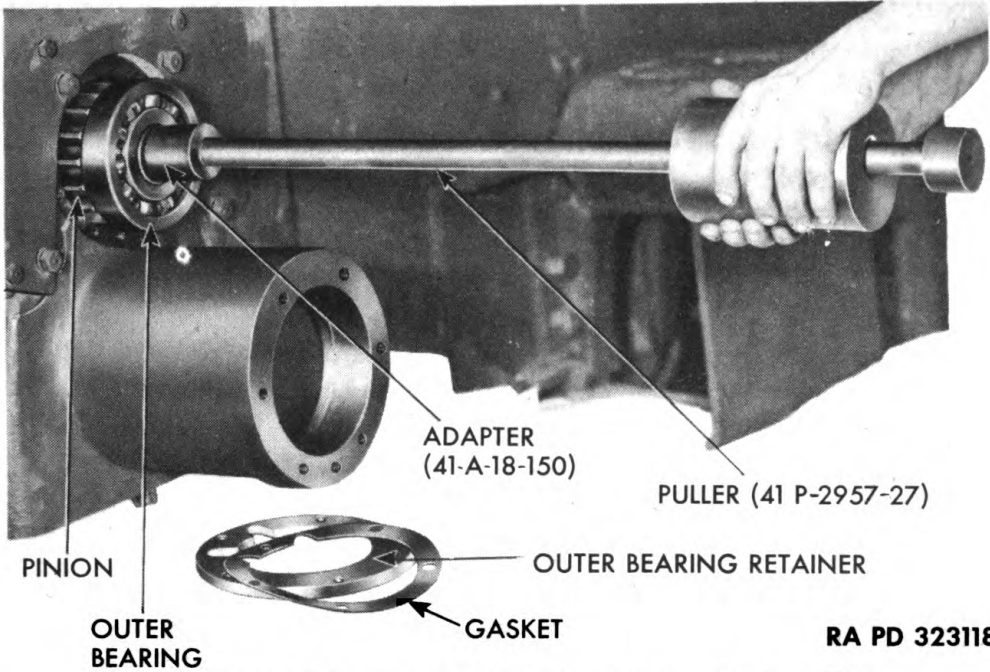

Figure 119 – Removing Final Drive Pinion Shaft
i. **Remove Final Drive Pinion Shaft** (fig. 119). Remove five cap screws and lock washers attaching outer bearing retainer to housing. Remove retainer and gasket from housing. Install pinion shaft puller adapter (41-A-18-150) in tapped hole in shaft, and attach slide hammer puller (41-P-2957-27). Pull pinion shaft with inner and
b. **Install Final Drive Pinion Shaft** (fig. 119). Install final drive pinion shaft puller adapter (41-A-18-150) in outer end of pinion shaft. Place inner end of pinion shaft into housing, and carefully insert shaft through oil seal to prevent damage to lips of seal by the splines. Install slide hammer puller (41-P-2957-27) in puller adapter, and drive inner bearing into housing. Turn pinion shaft until splines aline with splines in differential compensating gear. Then drive pinion shaft inward until outer bearing is flush with housing. Shellac new gasket to final drive pinion shaft outer bearing retainer, and attach retainer to housing with five cap screws and lock washers.